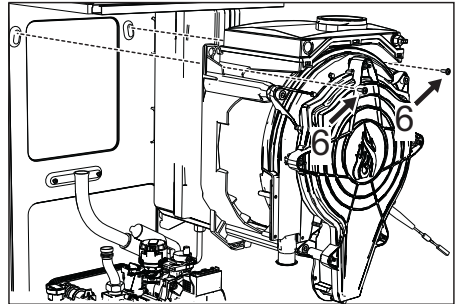

fig. 64
- Remove the 2 **top screws "6"** securing the exchanger to the frame (fig. 64)